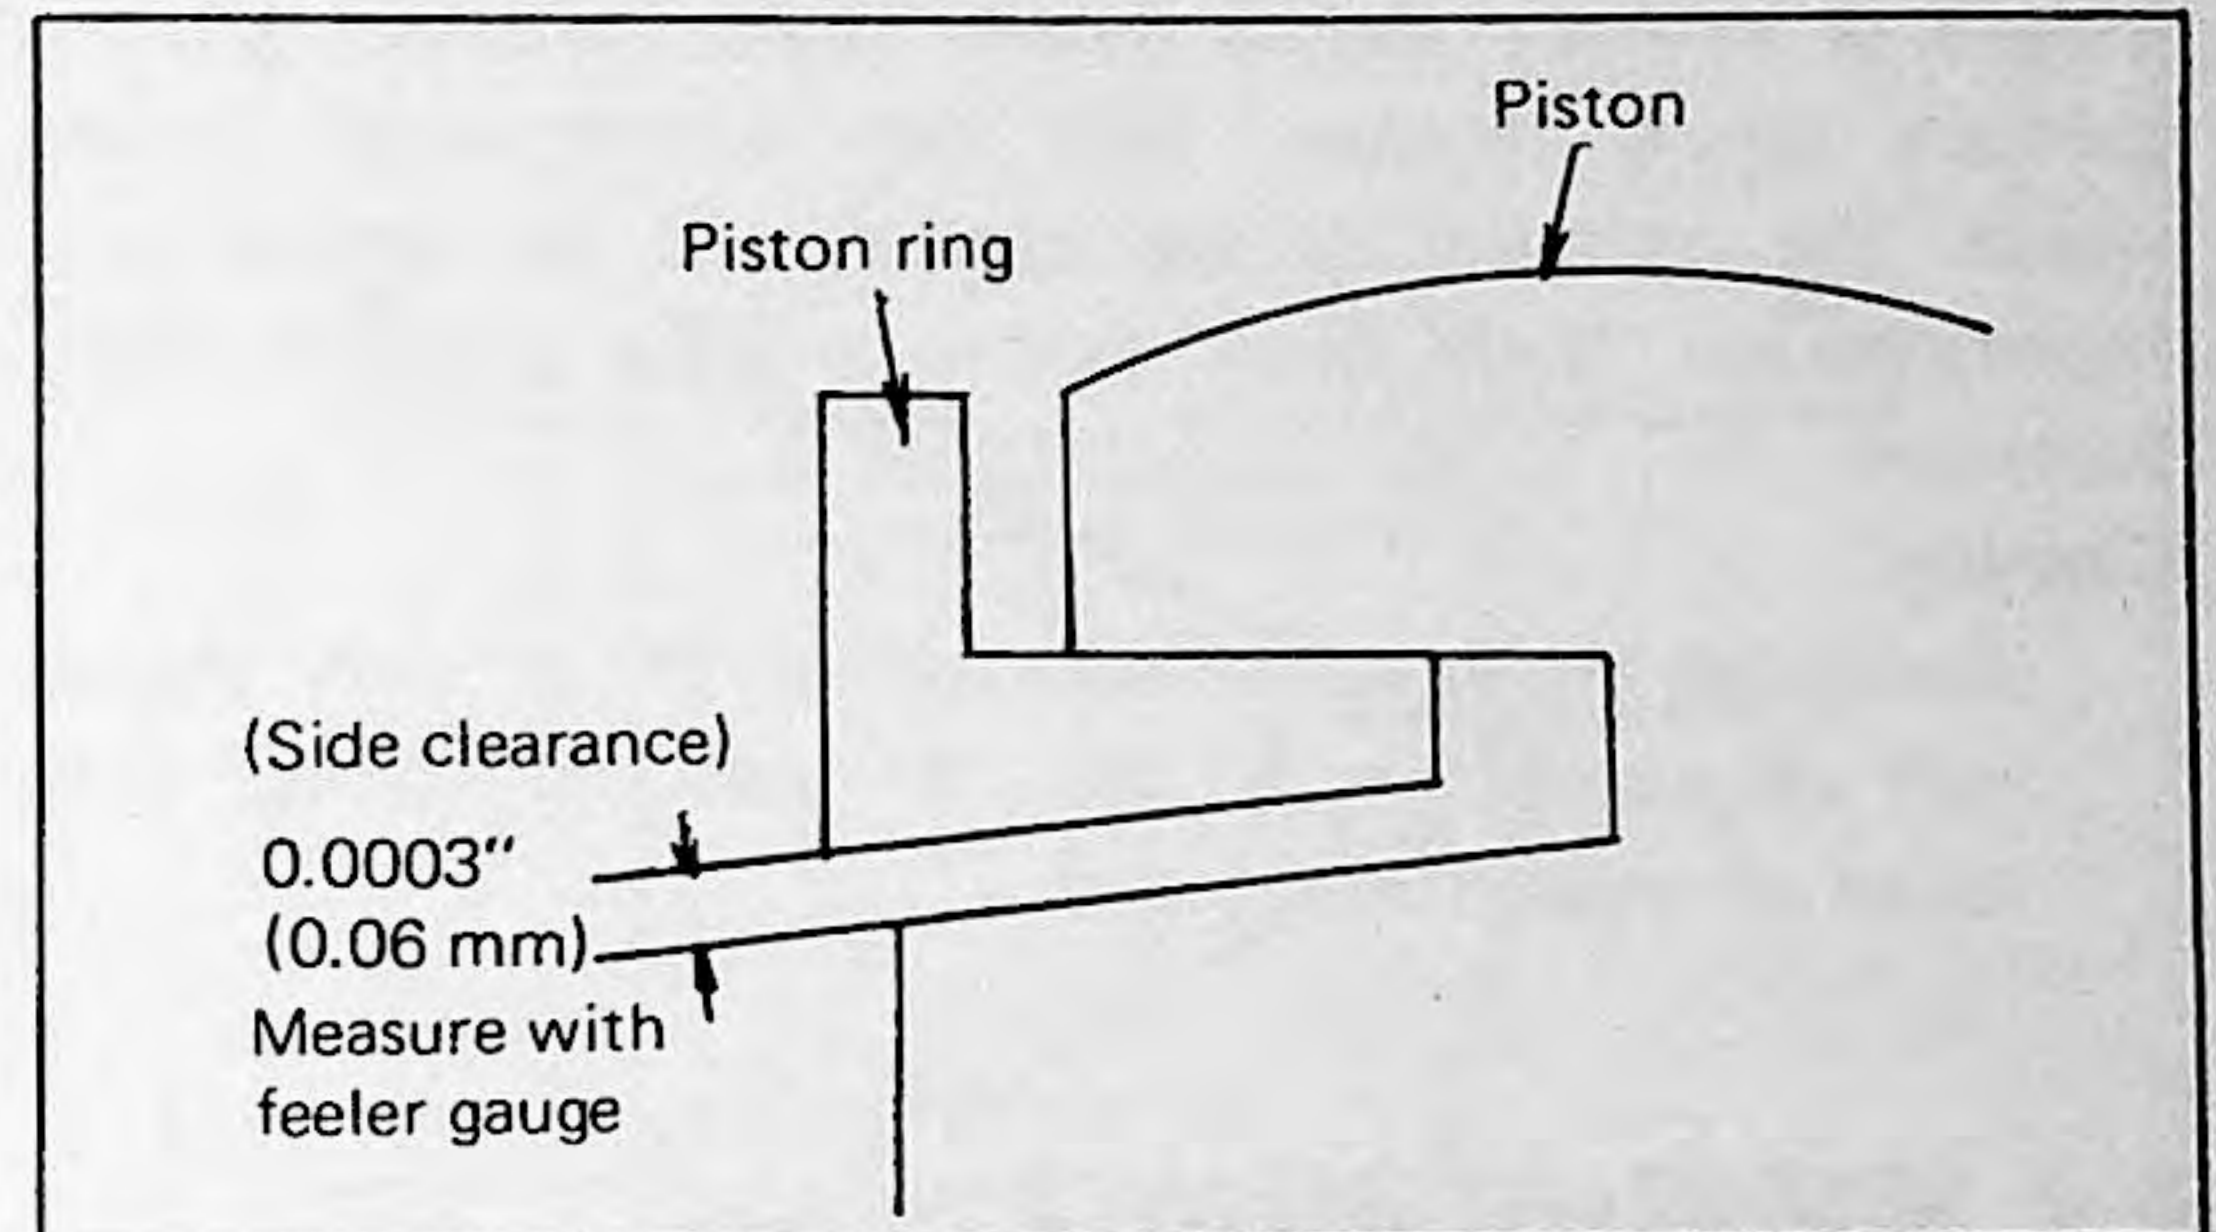

Fig. 8-48
- (1) If any piston ring is found stuck, poor sealing will result.
- (2) If the cylinder wall is scuffed, poor sealing will result as in the case of the piston ring being stuck. In the above two cases, the piston ring should be replaced with a new one, and at the same time, the cylinder wall should be checked for scratches.
- (3) Whether the contact between the piston ring and the cylinder wall is good or not will have a great effect on sealing. The entire area of the piston ring face must be in tight contact with the cylinder wall. If excess wear is found on the upper or the lower half of the piston ring face, the piston ring groove is considered to be worn unevenly, causing the ring to twist. (See Fig. 8-48)